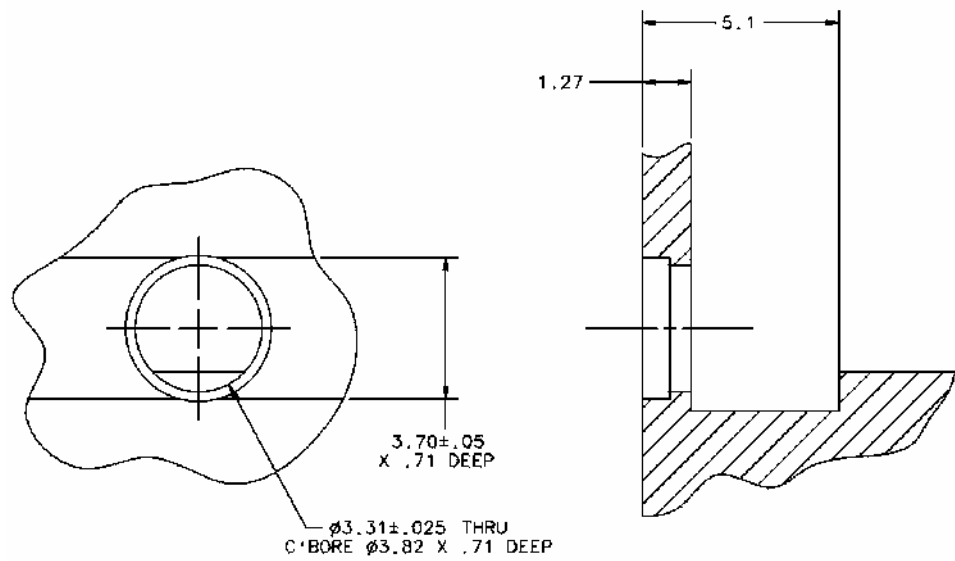

Figure 3. VP100CMS10 Mounting Hole Dimensions and Assembly for a Thin Wall Housing
- c. For a thin-wall housing, place one or two solder washers over the shroud inside the housing as shown in Figure 3.